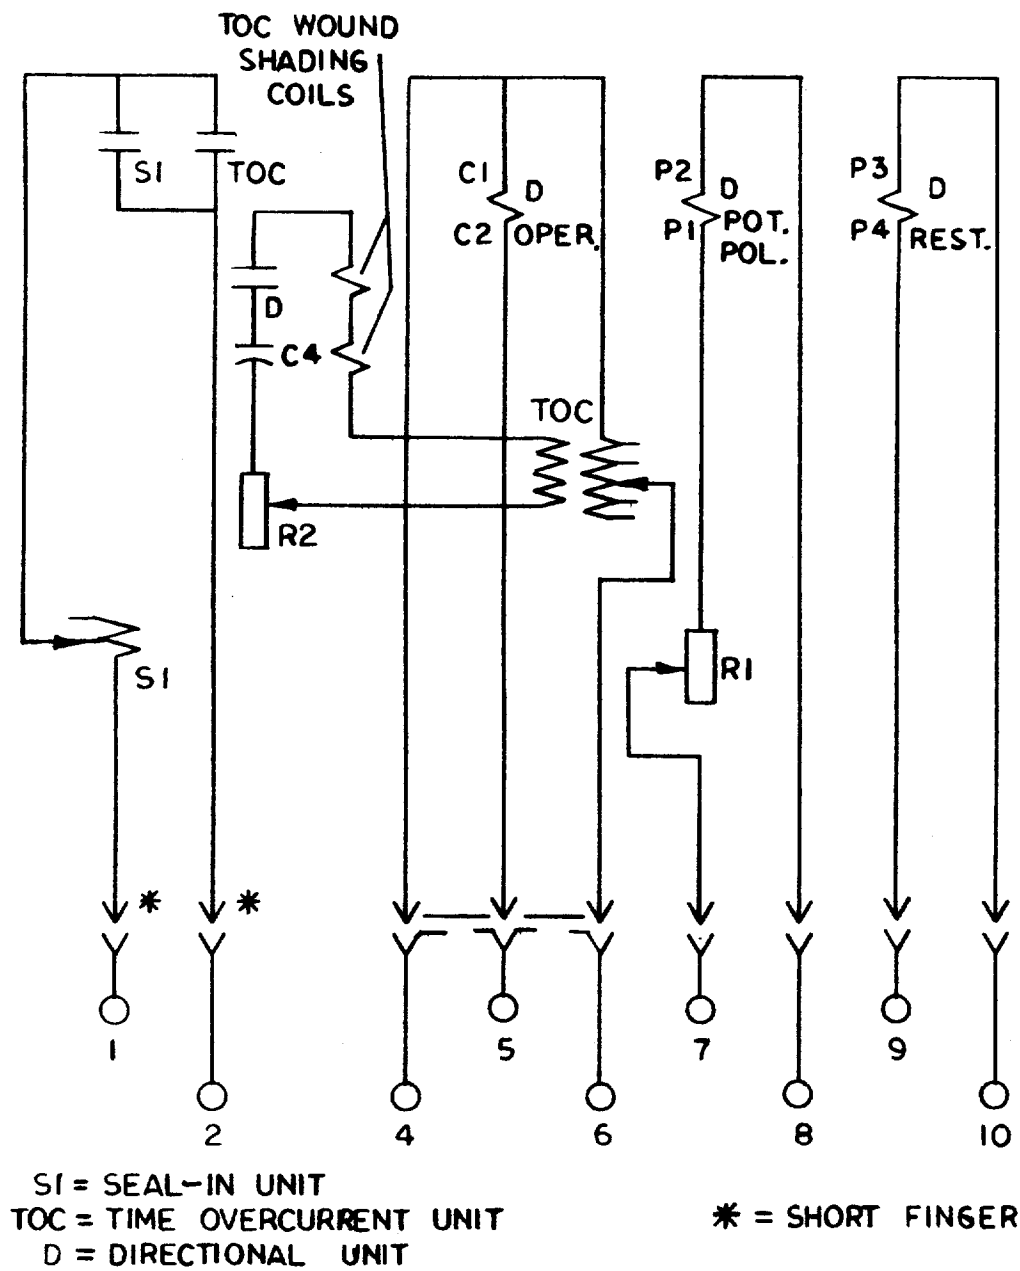

Figure 9 (0257A6167) Internal Connections for IBCV77M Relay (Front View)
- Figure 9 (0257A6167) Internal Connections for IBCV77M Relay (Front View)